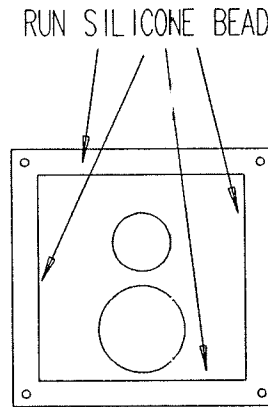

Figure 8
10. Secure top of termination box to the termination box with the screws provided, run a bead of silicone along the top of termination box and exterior faceplate. See Figure 8.